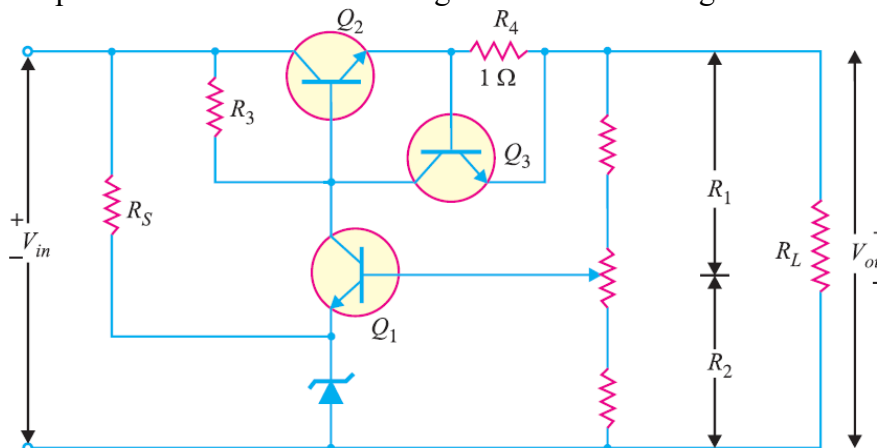

Figure B1.2
- b. Explain the operation of the current limiting circuit shown in Figure B1.2.